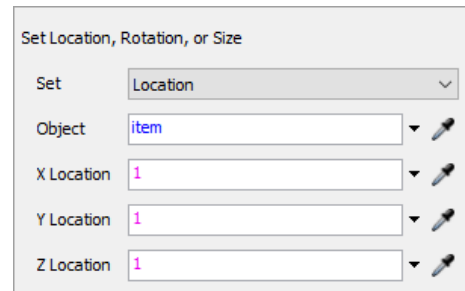

Fig. 16 Set Rotation, Size, and Location
2. **Set Rotation, Size, and Location** – allows you to rotate, change the size, and location of the object (Fig. 16). The appropriate option is selected in the Set field.